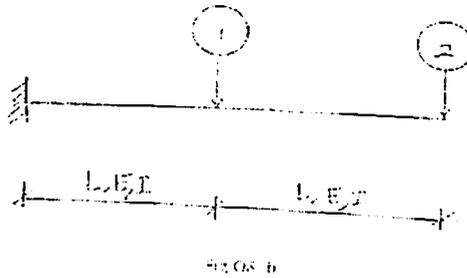

FIG. Q. 8. b
- b) Develop Stiffness and flexibility matrices for the beam w.r.t the coordinates marked in fig. Q 8.b.